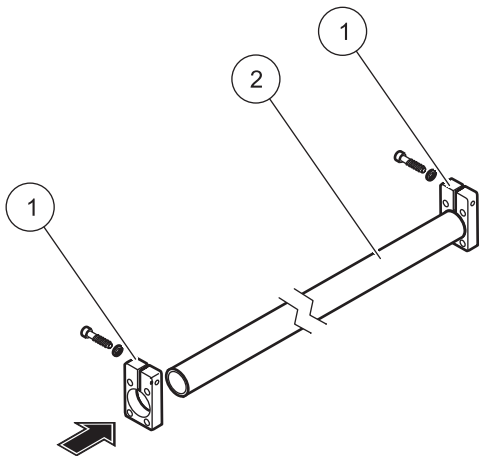

Figure 8 Fitting the clamps
4. Fit a clamp to the middle and end of the supporting pipe using one M8 x 40 mm screw and spring washer for each clamp (Figure 8 on page 7).